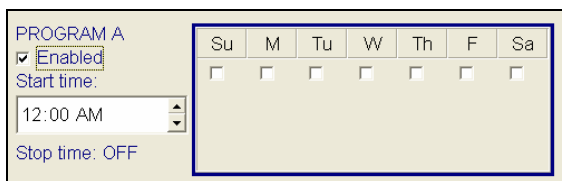

Figure 16.1.8D
- Next check the **Enabled** box for each program that you want to use (Figure 16.1.8D).